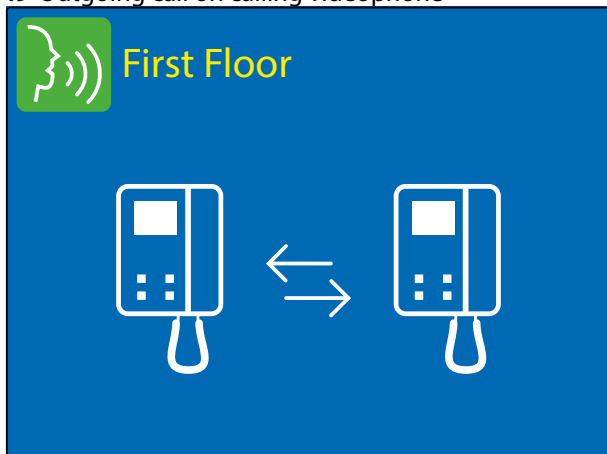
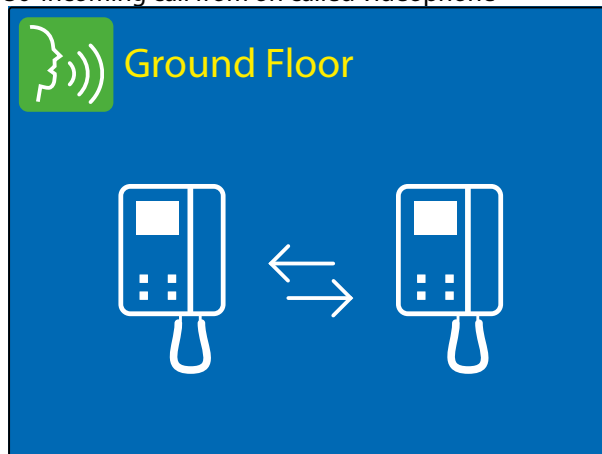

Fig. 51 Conversation in progress on calling videophone
Fig. 52 Conversation in progress on called videophone
- When the called videophone answers it starts the conversation between the videophones, the caller (Fig. 51) and the called (Fig. 52) shows the speech symbol followed by the name of the connected videophone.